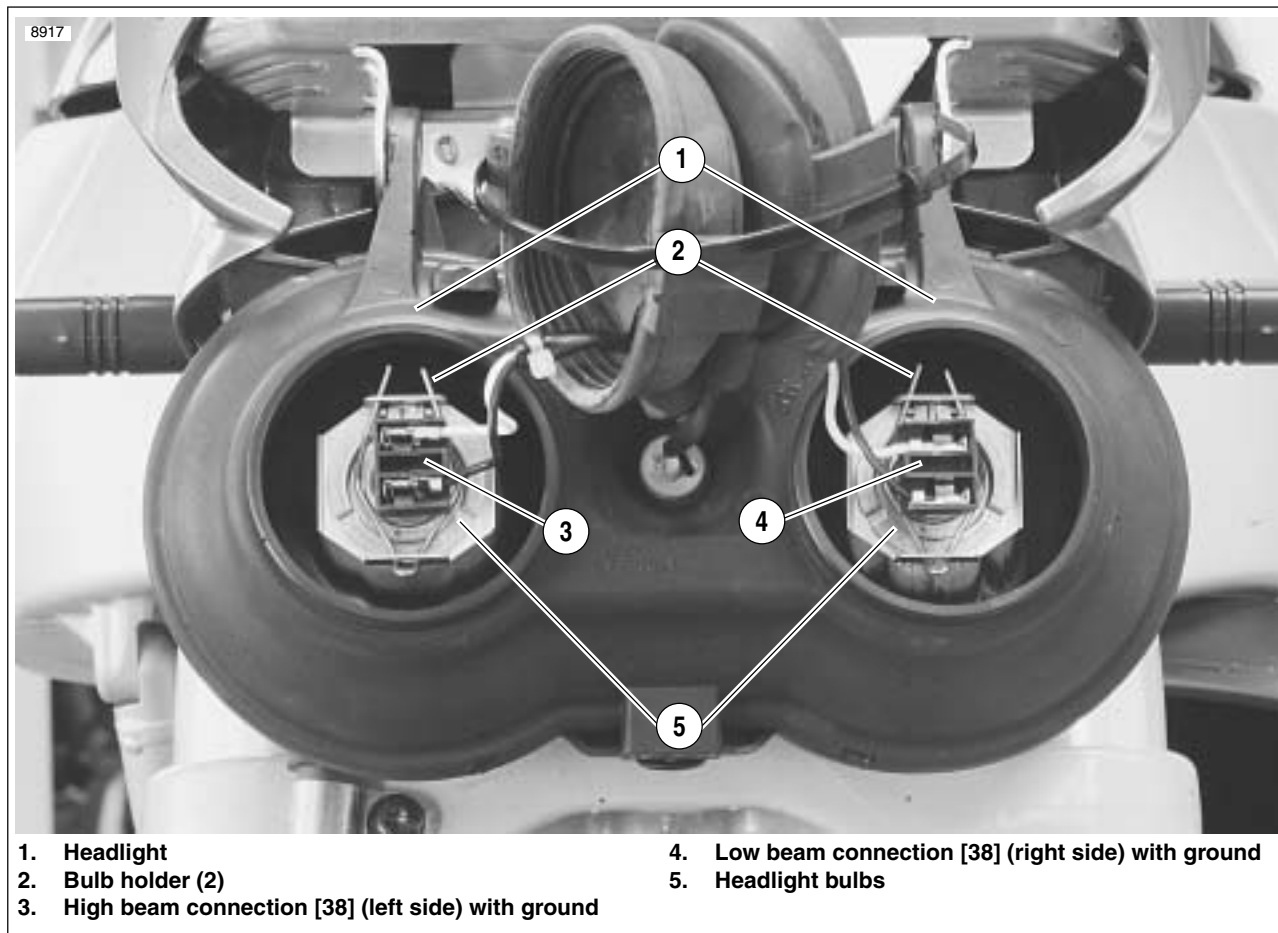

Figure 7-43. Headlight Assembly/Rear View
2. See Figure 7-43. Remove rubber boot from headlight housing.
3. Unplug headlight bulb connectors (3) and/or (4).
4. Release bulb holder (2) from headlight housing clips.
1. See Figure 7-43. Align tabs on bulb (5) with tabs on headlight (1). Insert bulb.
2. Close the bulb holder (2).